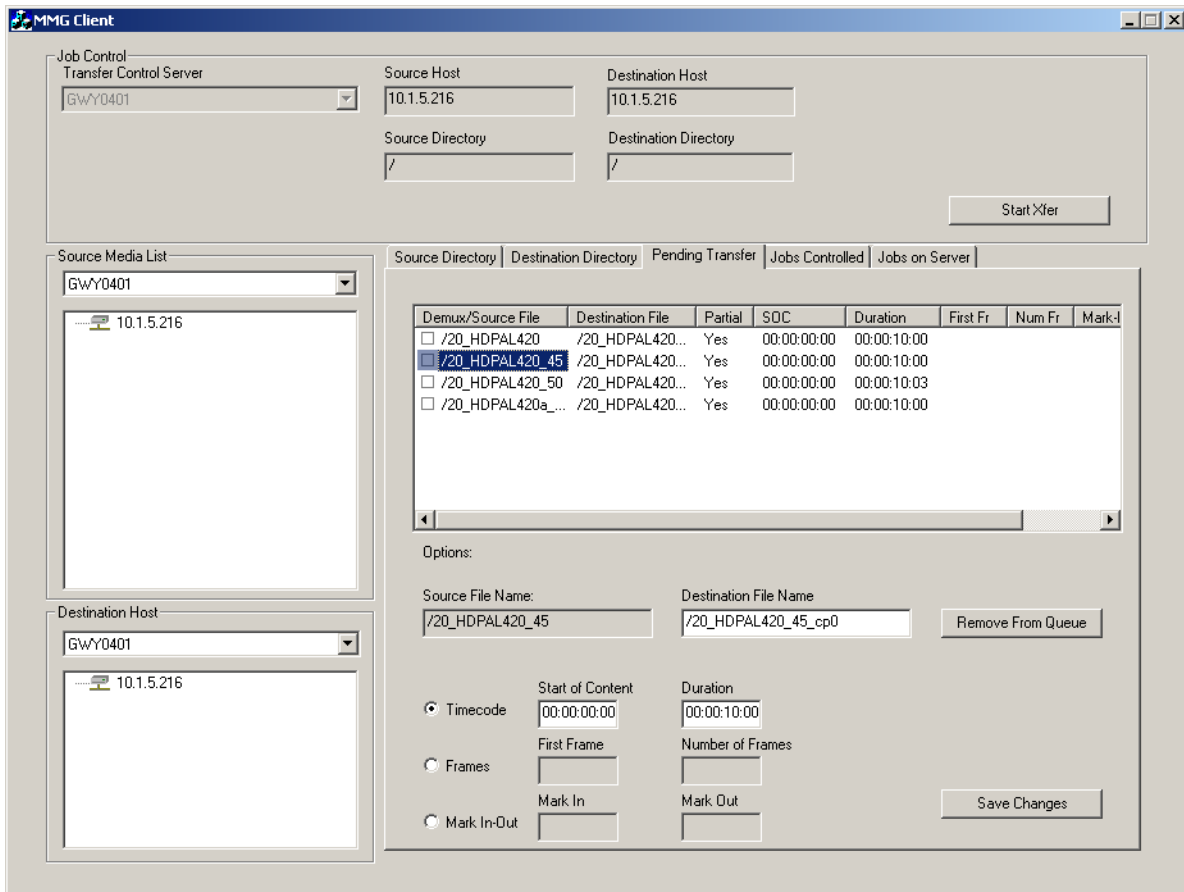

Figure 5-4: Pending Transfer Tab
7. If you want to transfer the whole clip, you can click the Start Xfer button at this time. You have the option of transferring part of a clip. To do this, select the clip in the list, and select the radio button next to one of the three destinations given (shown in Figure 5-4.)